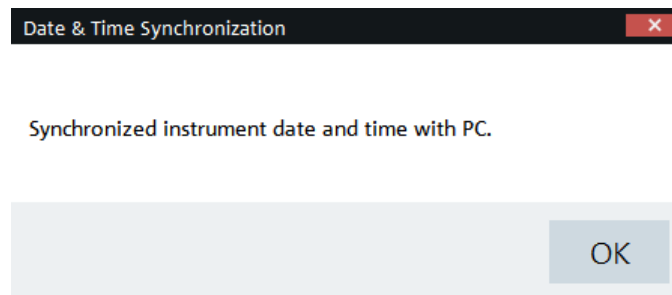

Figure 5-22: Date and time synchronization
- Select "OK" to confirm the "Date and Time" synchronization. See Figure 5-22.